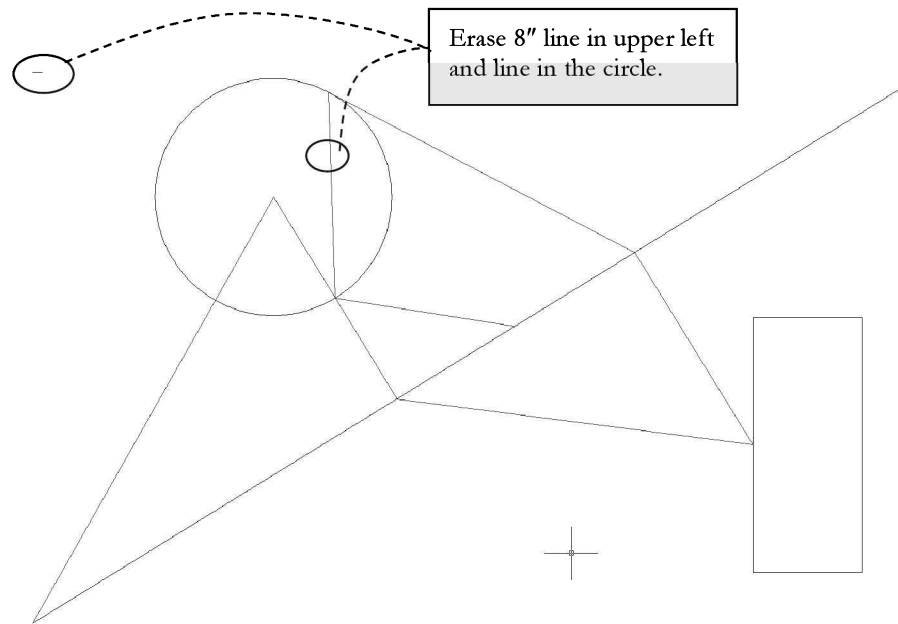

FIGURE 3-3.2 Lines to be erased
3. While holding the **Ctrl** key, select the lines identified in **Figure 3-3.2**.
TIP: See the section below Figure 3-3.2 on *Selecting Entities*.